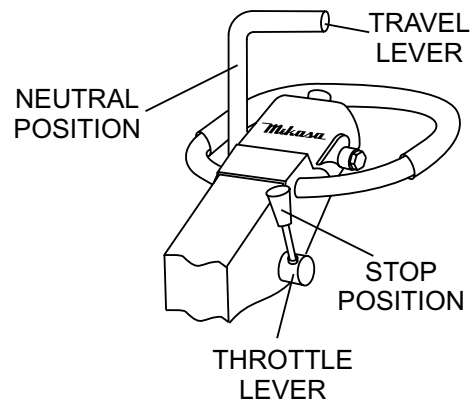

Figure 20. Throttle Lever (Stop)
2. Place the travel lever in the **NEUTRAL** position (Figure 20).
3. Place the throttle lever in the **STOP** position (Figure 20) to stop the engine.